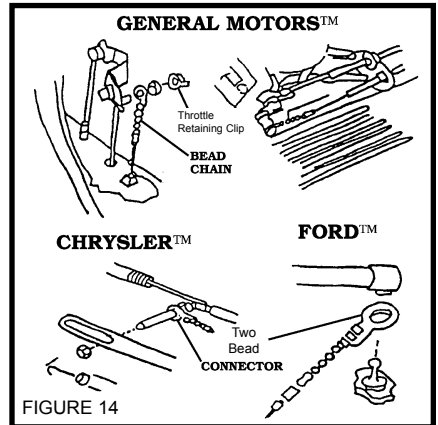

FIGURE 14
1. Most **General Motors™** vehicles and many **Chrysler™** vehicles can use the **TWO BEAD CONNECTOR** to attach the **CABLE ASSEMBLY**. **Figure 14**